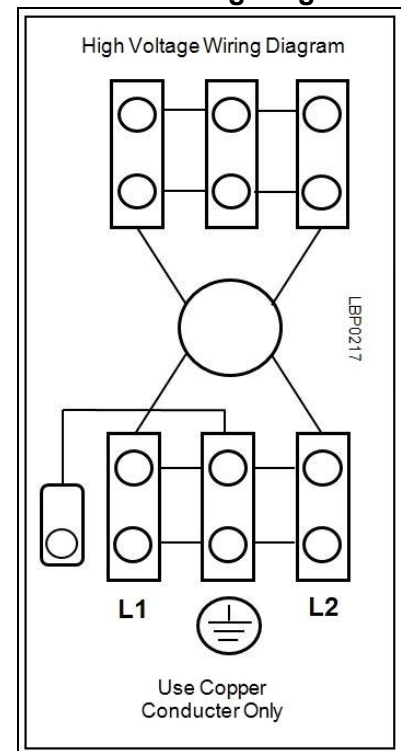

Figure 20
3. Using at least 16 amperes of electrical service, connect your input wiring to the circuit panel as per the wiring diagram located on the access panel. Figure 20.